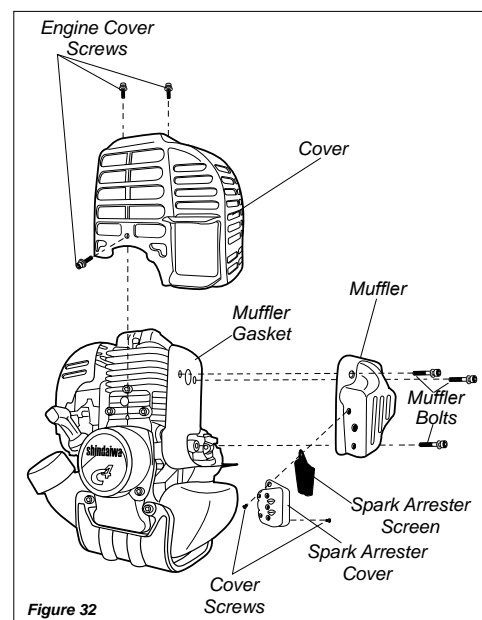

Figure 32
1. With a 3 mm hex wrench remove the 3 engine cover screws and the engine cover. See Figure 32.
2. With a 4 mm hex wrench remove the 3 muffler bolts and the muffler. See Figure 32.
3. With a small flat bladed screwdriver remove the 2 screws holding the spark arrester screen and cover to the muffler. See Figure 32.